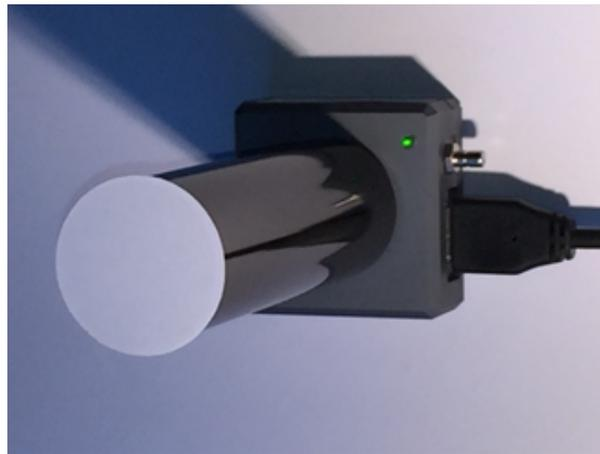

Figure A.1: Camera and C-mount tube for compensation setup.
- (c) Set a diffuser on top of the tube and illuminate it with a tungsten filament or halogen light source from a distance. See Fig A.1 (100 mm tube shown).